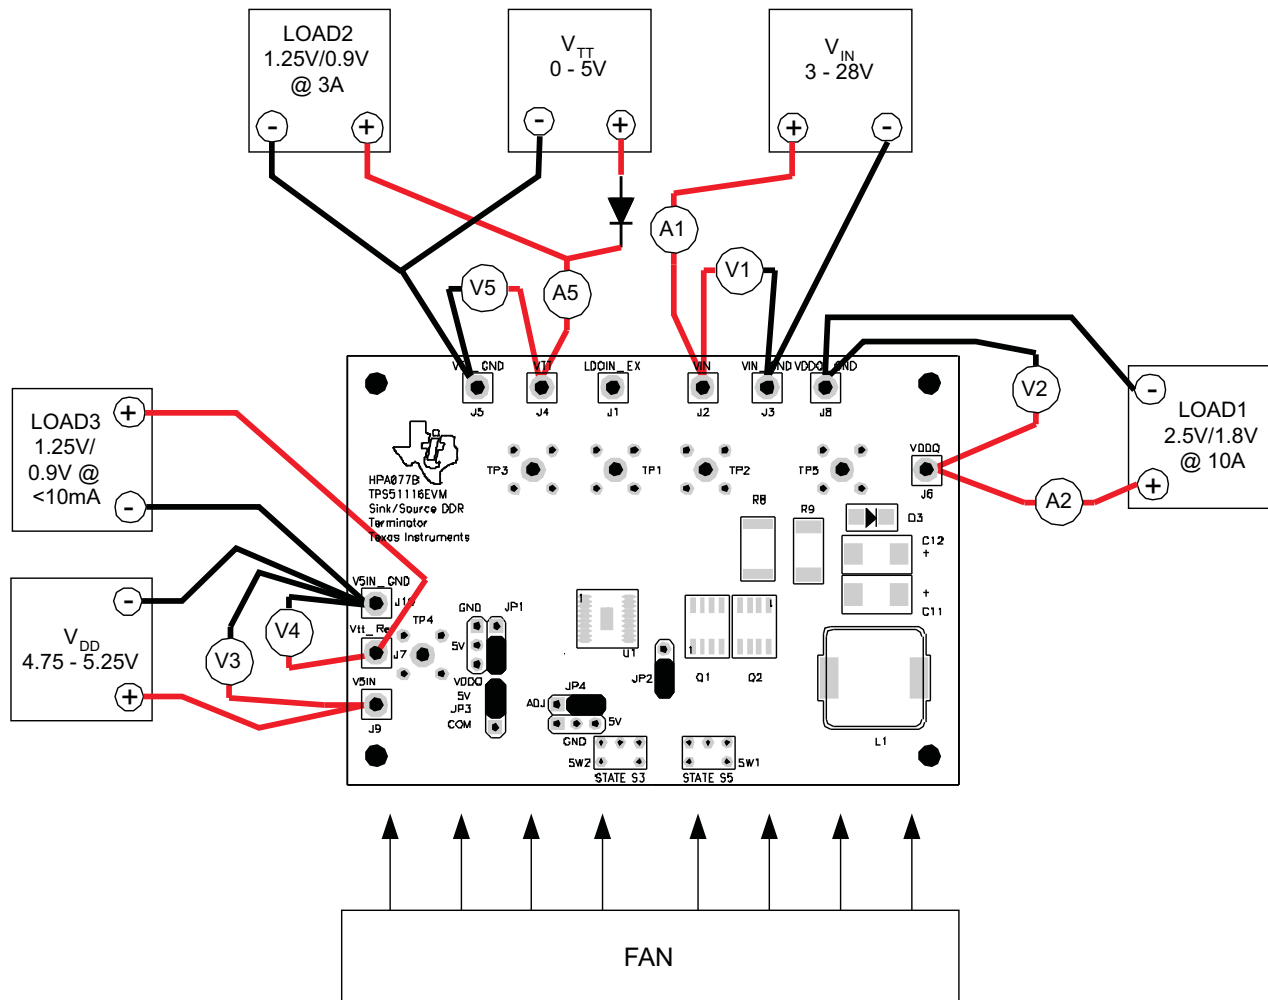

Figure 3. TPS51116EVM Test and Evaluation Setup
Figure 3 shows the basic test set up recommended to evaluate the TPS51116EVM. Please note that although all grounds are common, their connections should remain separate as noted in Figure 3.
2. Connect power supplies, loads, voltage meters and current meters as shown in Figure 3